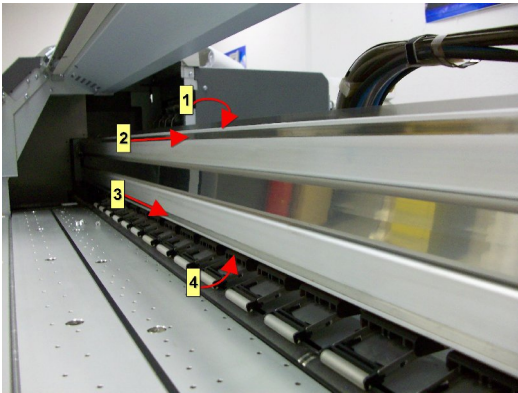

Figure 1
1. There are 4 bearing raceways that run the length of the Y-rail the carriage travels on (Figure 1)